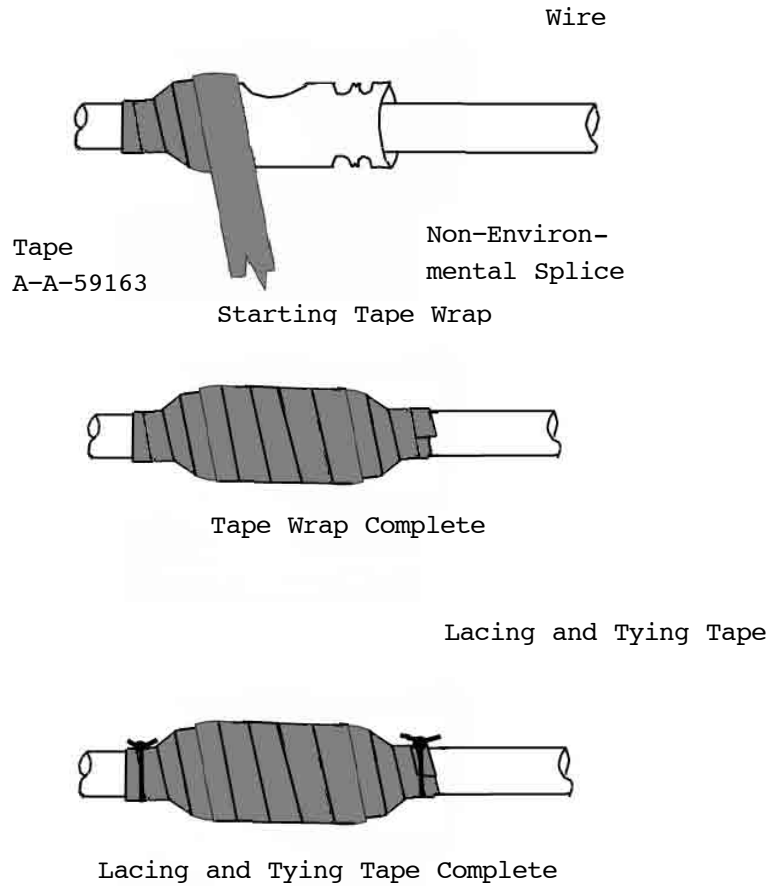

Figure 21. Taping Non-Enviornental Splice
b. Silicon Tape Sealing (Figure 21).
(1) Wrap splice or terminal with silicon tape A-A-59163.
(2) Using lacing and tying A-A-52083 or A-A-52084, tie both beginning and end of tape wrap.